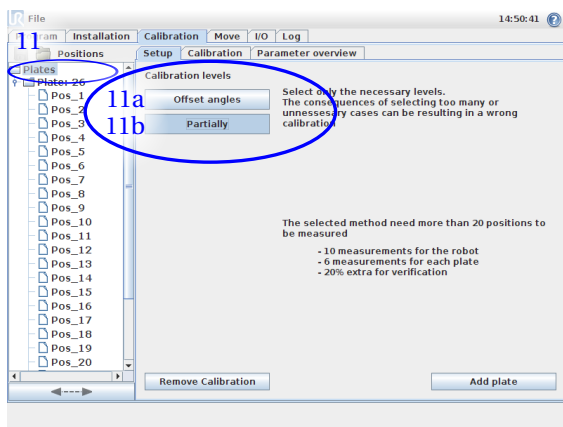

Figure 1.9: Select the top of the tree item on the left to be able to select the level of calibration.
(11) Select the top of the tree item "Positions" on the left to be able to select the level of calibration, see figure 1.9.